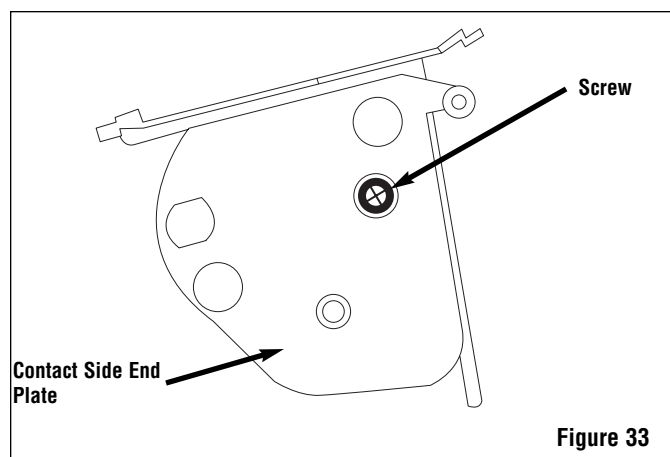

Figure 33
- d. Place the new End Plate on the Hopper and secure it with the screw provided in the kit. See figure 33.